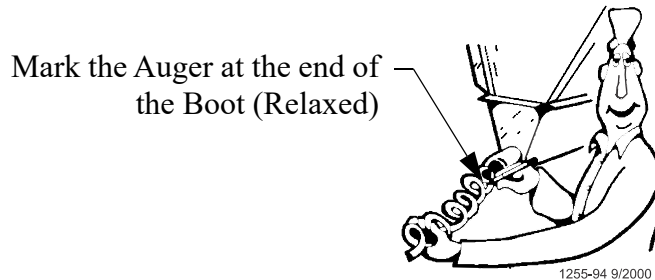

Figure 37. Measure the Auger from the relaxed position
10. Pull the auger at the boot end until it begins stretching. Then let it relax. In the *relaxed* position, mark the auger at the end of the boot. (See Figure 37.)
Grip the auger 8" [200 mm] ahead of this mark with locking pliers. Allow the auger to pull back into the boot so that the pliers rest against the end of the boot. (See Figure 37.)